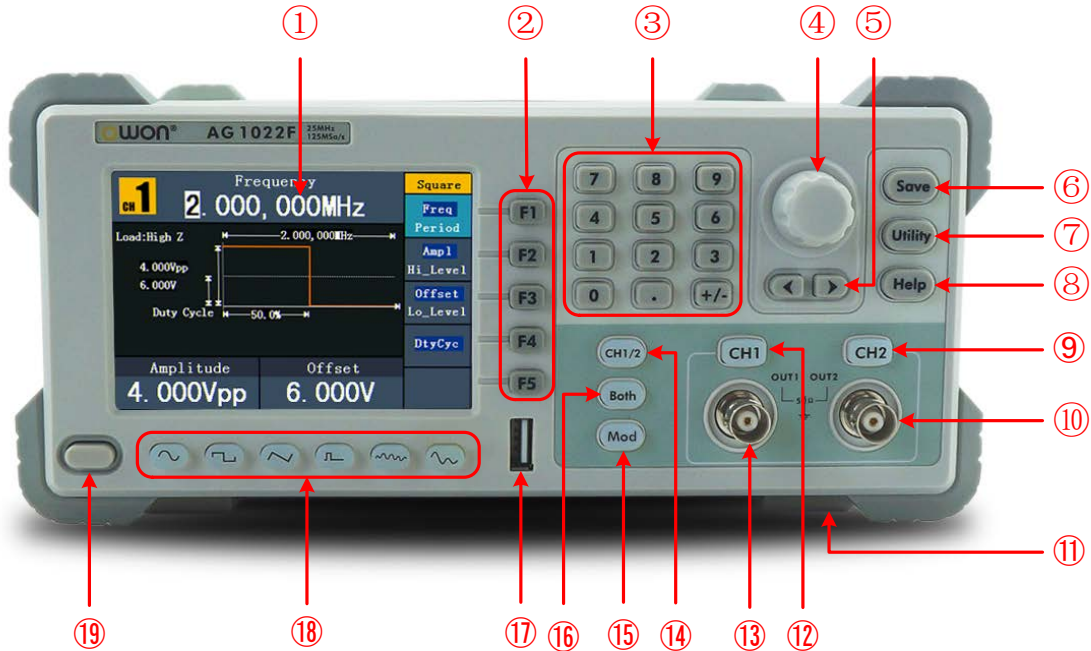

Figure 4-1 Front panel overview (AG1022F shown)
Unfold the foot stools on the bottom of the generator, as ⑪ in *Figure 4-1*.